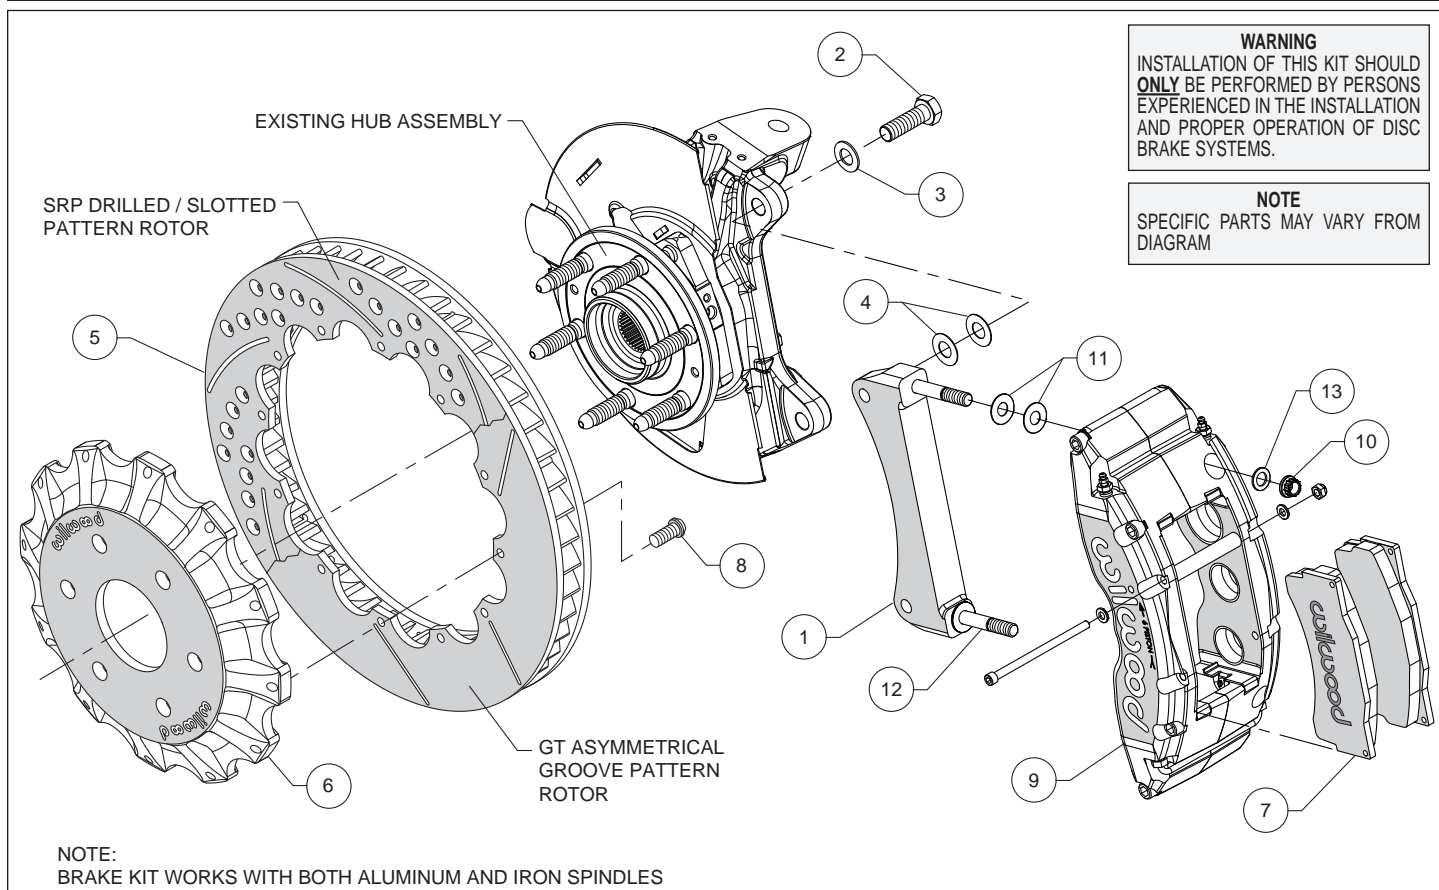

Figure 1. Typical Installation Configuration
Assembly Instructions (numbers in parenthesis refer to the parts list and Figure 1 on the preceding page):
- The caliper mount bracket (1) should initially be installed with clean, dry threads on the mounting bolts. Orient the bracket as shown in Figure 1, and install using washers (3) and bolts (2). Initially place two .029 thick shims (4) on each bolt between the bracket and upright, Figure 1. Temporarily tighten the mounting bolts. **NOTE:** The bracket must fit squarely against the mount bosses on the upright. Inspect for interference from casting irregularities, machining ridges, burrs, etc. Later, after the caliper alignment has been checked, the mount bolts will be secured using red *Loctite*® 271.
- Orient the rotor (5) and the hat (6) as shown in Figure 1. Attach rotor to hat using bolts (8). Finger tighten. Using an alternating sequence, remove bolts (8) one at a time, apply red *Loctite*® 271 to the threads and torque to 25 ft-lb.
- NOTE:** This kit contains distinct right and left hand calipers that must be mounted in a specific direction, as described below. Lubricate the caliper mounting studs (12) with lightweight oil. Initially place two .030" thick shims (11) on each stud as shown in Figure 1. Mount the caliper (9) onto the bracket (1) using lock nuts (10) and washers (13), Figure 1. Ensure that the caliper is mounted so that the largest pistons are at the rotor exit end of the caliper, in relation to the direction of rotor rotation and with the bleed screws pointing up. Temporarily tighten the lock nuts and view the rotor through the top opening of the caliper. The rotor should be centered in the caliper. If not, adjust by adding or subtracting shims (4) between the bracket and the upright. Always use the same amount of shims on each of the two mounting bolts. Once the caliper alignment is correct, remove the bracket mounting bolts (2) one at a time, apply red *Loctite*® 271 to the threads, and torque to 70 ft-lb.
- Remove the two caliper center bridge pad retainer bolts, nuts, and tubes from the caliper. Insert the brake pads (7) into the caliper, with the friction material facing the rotor. Check that the top of the brake pad is flush with the outside diameter of the rotor. If not, adjust by adding or subtracting shims (11) between the caliper and the bracket. After the caliper pad height is set, reinstall the center bridge pad retainer tubes, bolts, and lock nuts. The lock nut should be snug without play in the bolt or tube. Be cautious not to over tighten. Torque the caliper lock nuts (10) to 47 ft-lb.